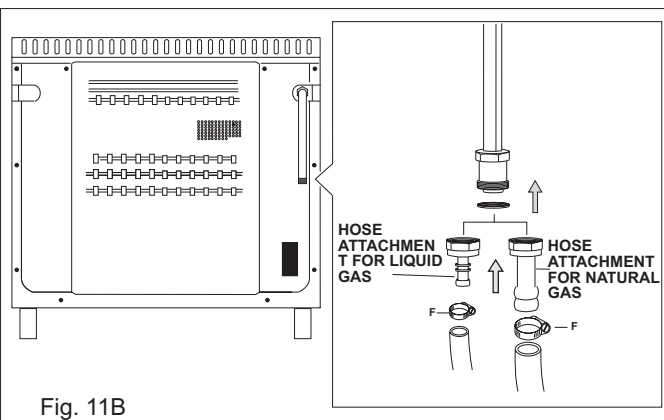

Fig. 11B
- 3) by the insertion of a rubber tube in accordance with rules. This tube must be connected directly on the push-on connector, concerning the gas used, and it must be blocked with a band. In the last case, check the tube's printed date of expiry and replace it before this date (see fig. 11B).